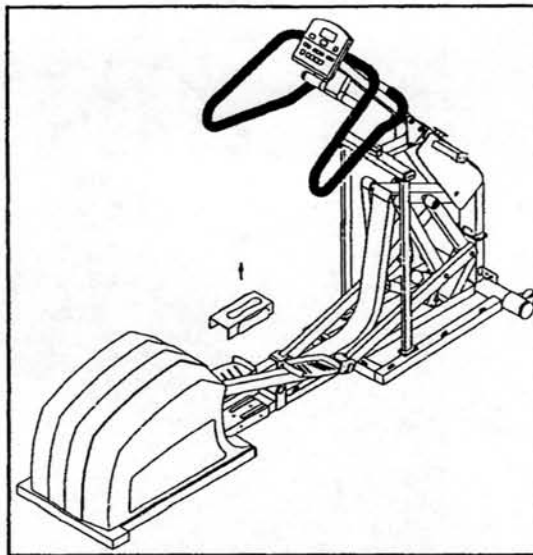

Fig.2-4
4. Remove the FRAME JOINT COVER (see Fig. 2-4).